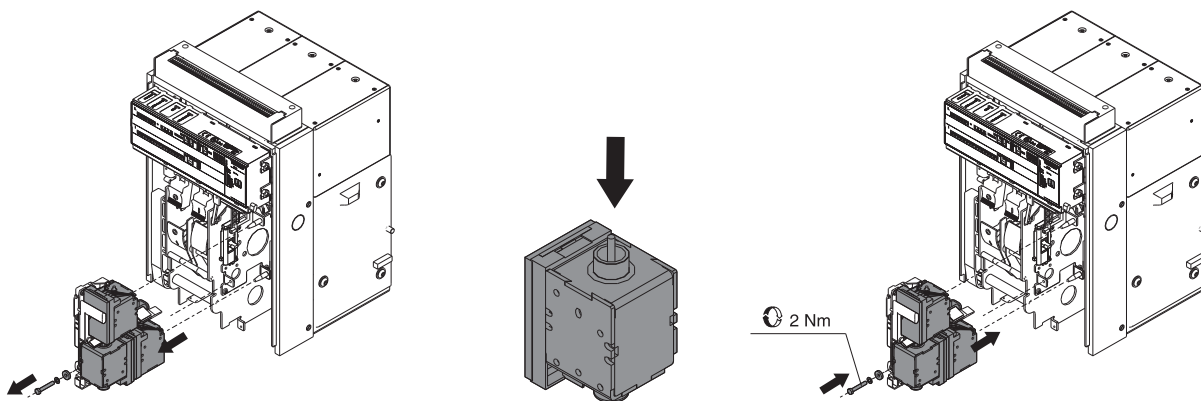

Fig. 44
- Check that the releases (YO, YU, YC) are in good condition (no excessive wear, overheating, breakages) fig 44.